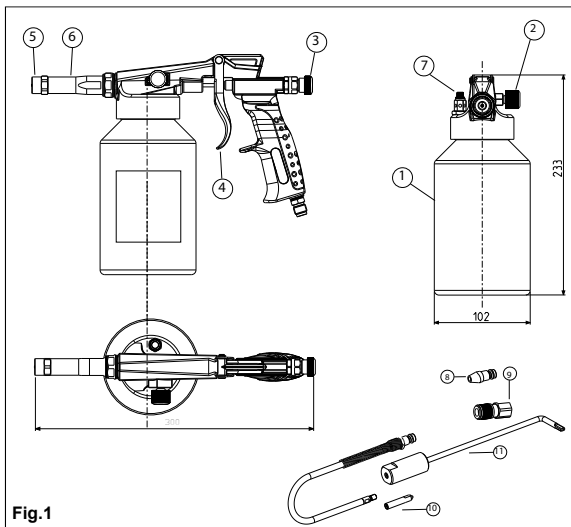

FIG.1 #	PRODUCT IDENTIFICATION
You can apply these coatings directly out of the gun with the spray cap (FIG.1 #5) and spray head (FIG.1 #6) installed. Different textures can be obtained by changing the air pressure, product flow (FIG.1 #3) and/or air atomizer (FIG.1 #2) settings.
As you open the product control knob (FIG.1 #3), the application will become more and more textured.
An optional wand (item BS-39) is available to spray heavier coatings in hard to reach places i.e. around mufflers and behind exhaust pipes. This wand is NOT supplied with the gun model UCPro but is included with model UCPro Plus. To install this wand, unscrew the spray cap (FIG.1 #5) and screw the wand onto the spray head (FIG.1 #6).
- 1) The wands supplied with this gun (FIG.1 #10 AND #11) are rust proofing wands developed for the application of thinner coatings i.e. cavity wax and rust fighting oils. The inside diameter of these wands is too small to spray heavy coatings. Only use the Undercoating wand BS-39 for this purpose.
To spray Rust proofing such as Cavity Coating and rust fighting oils, remove the spray cap (FIG.1 #5) and connect the Quick Coupling Connector (FIG.1 #9) supplied with the gun.
To spray directly out of the gun, install the rust proofing spray tip (FIG.1 #8).
This gun was designed to apply both solvent based and water based coatings. When spraying solvent based coatings make sure that the air regulator (FIG.1 #7) is completely closed. Depending on the brand of waterborne product you are using, you might have some premature drying of the coating at the nozzle of the gun. This could interrupt the spraying process. In this case, open the air regulator slightly to reduce pressure in the tank.
When spraying cleaning solvents with the gun, ALWAYS close the Air Control Knob (FIG.1 #2) and the air regulator (FIG.1 #7) first. Atomized solvents are extremely flammable. Properly dispose of cleaning solvents as per local regulations.
Keep the safety valve FIG.1 #7 clean and assure that it is not blocked.
Release the air pressure from the tank before opening by opening the safety valve (FIG.1 #7).
- 1) In case the product leaks out around the needle packing, in front of the trigger (Fig.1 #4), clean the fouled parts immediately.